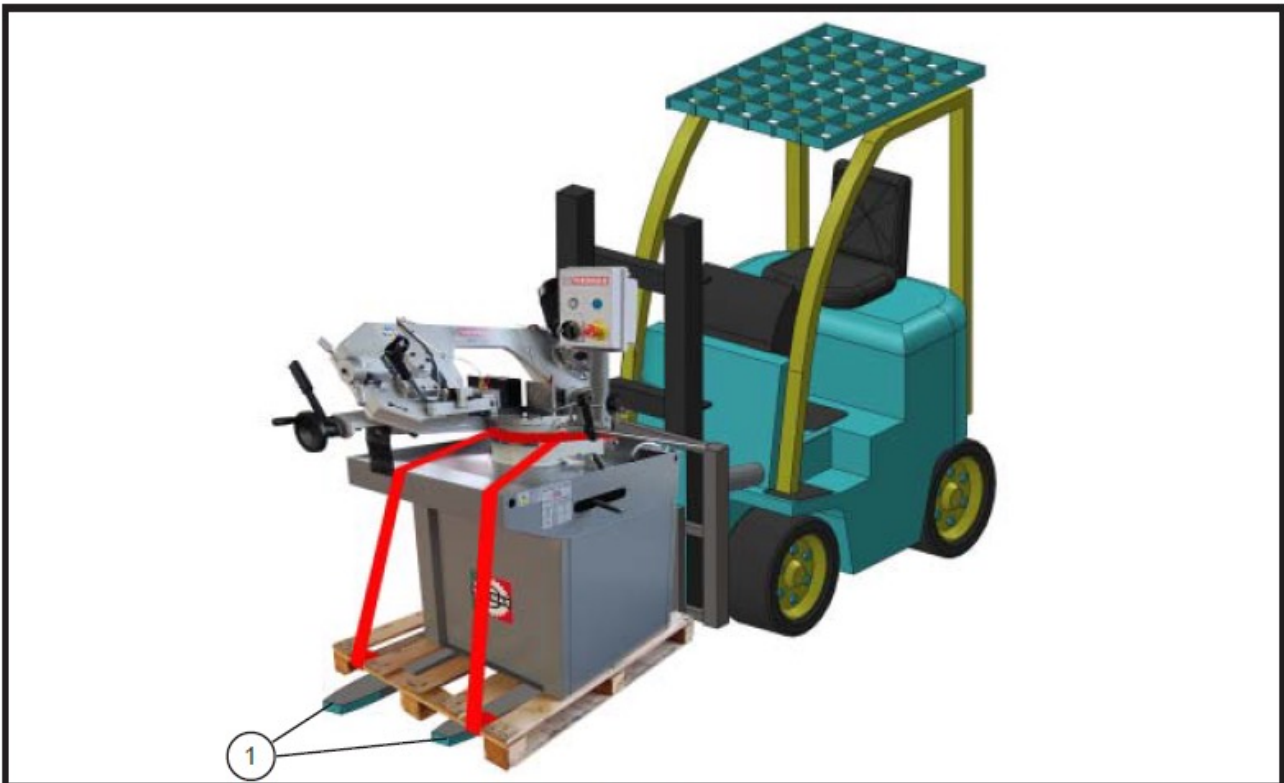

Fig. 1-9
- a) Insert the forks of the truck into the pallet (fig. 1-9). Secure the machine with straps around the base of the vice.